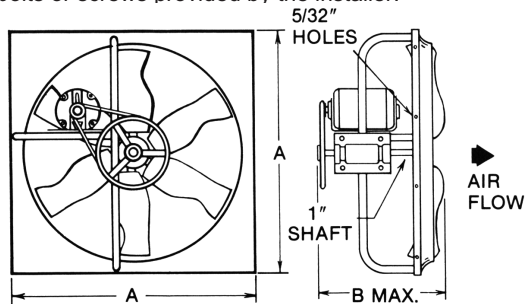

Figure 9
19. Slide the fan into the framed opening in the wall, with the motor in the position shown in Figure 9. Securely fasten with bolts or screws provided by the installer.